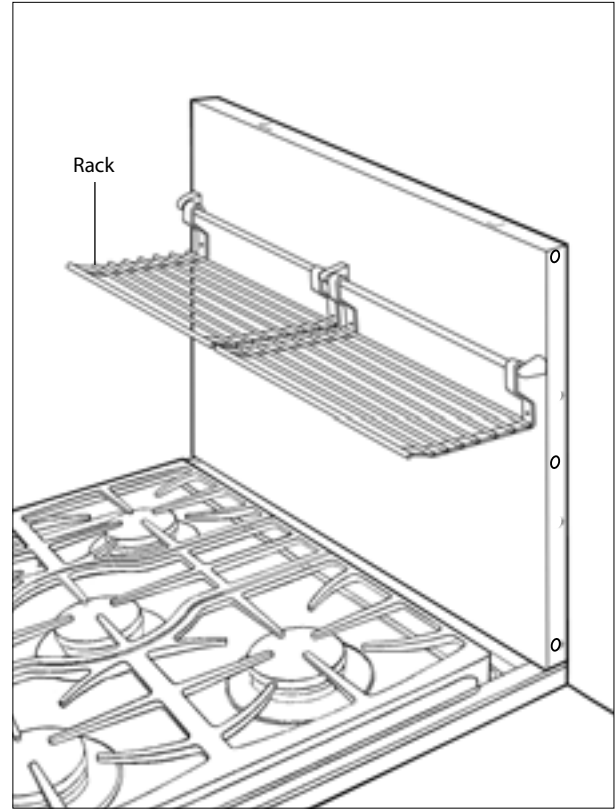

Fig.12
6. Attach racks to rod (fig. 12). The maximum weight placed on each rack should be 10 lbs.